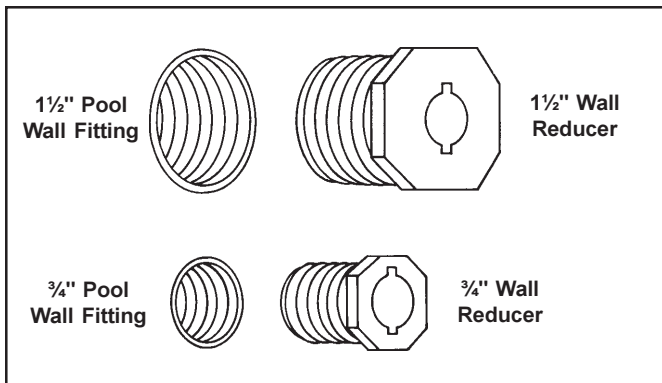

Figure 4. Wall Reducers
- From the selection of five (5) speed adjustment washers, select "C" and place it into the quick disconnect fitting (see Fig. 4).